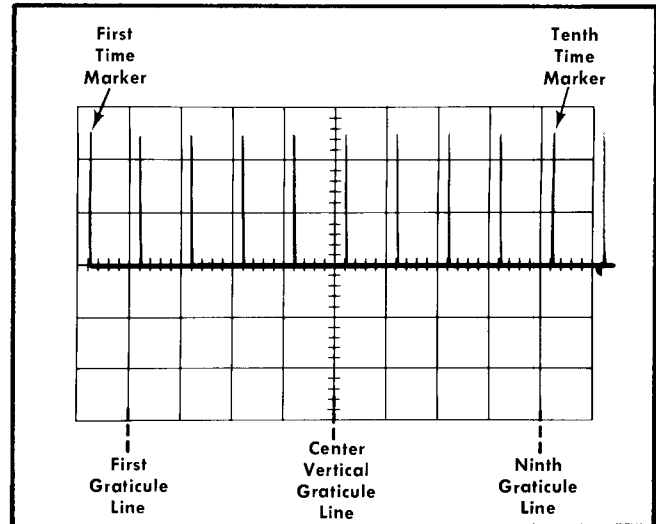

Fig. 6-5. Illustration showing the nomenclature being used.
f. Horizontally position the display so the second time marker is aligned with the first graticule line; see Fig. 6-5.